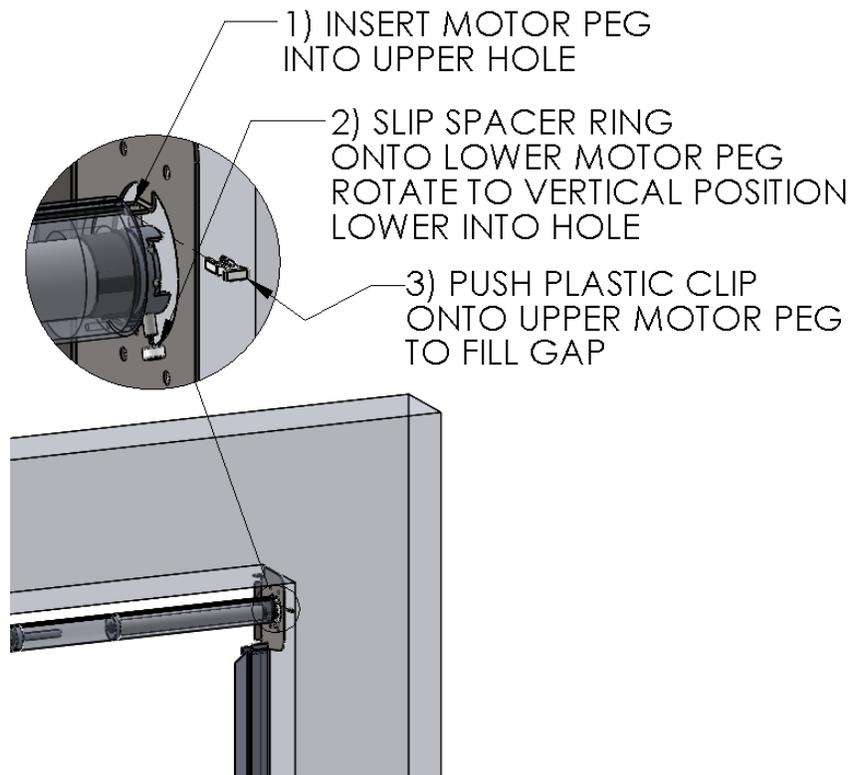

Figure 4 INSTALL MOTOR SIDE OF ROLL ASSEMBLY
2. At the right side, insert the Upper Motor Peg fully into upper hole of R.H. Header Mounting Bracket. (Figure 4 INSTALL MOTOR SIDE OF ROLL ASSEMBLY)
3. Slip the plastic Ring onto Lower Motor Peg, then insert the Lower Motor Peg into the lower hole on the Header Mounting Bracket. (Figure 4 INSTALL MOTOR SIDE OF ROLL ASSEMBLY)
4. Insert the plastic Clip onto the Upper Motor Peg to fill space between the Bracket and Motor. (Figure 4 INSTALL MOTOR SIDE OF ROLL ASSEMBLY)